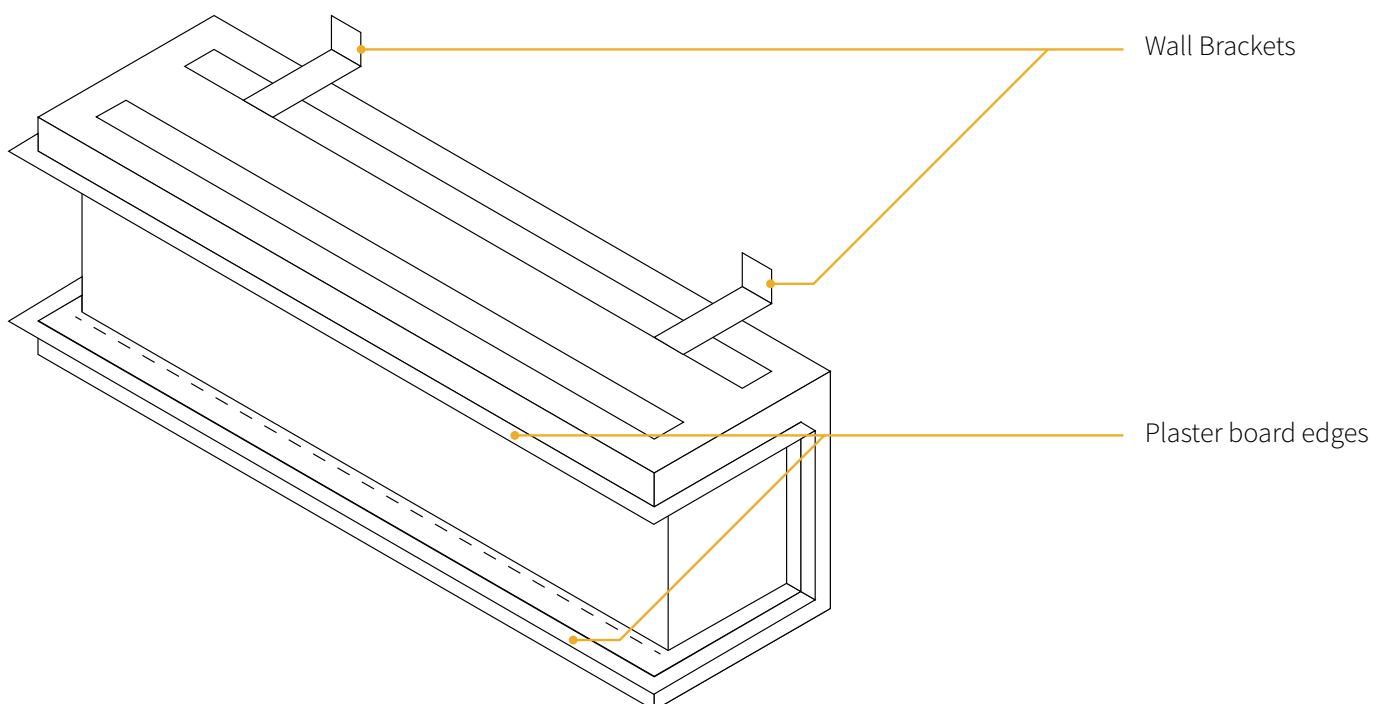
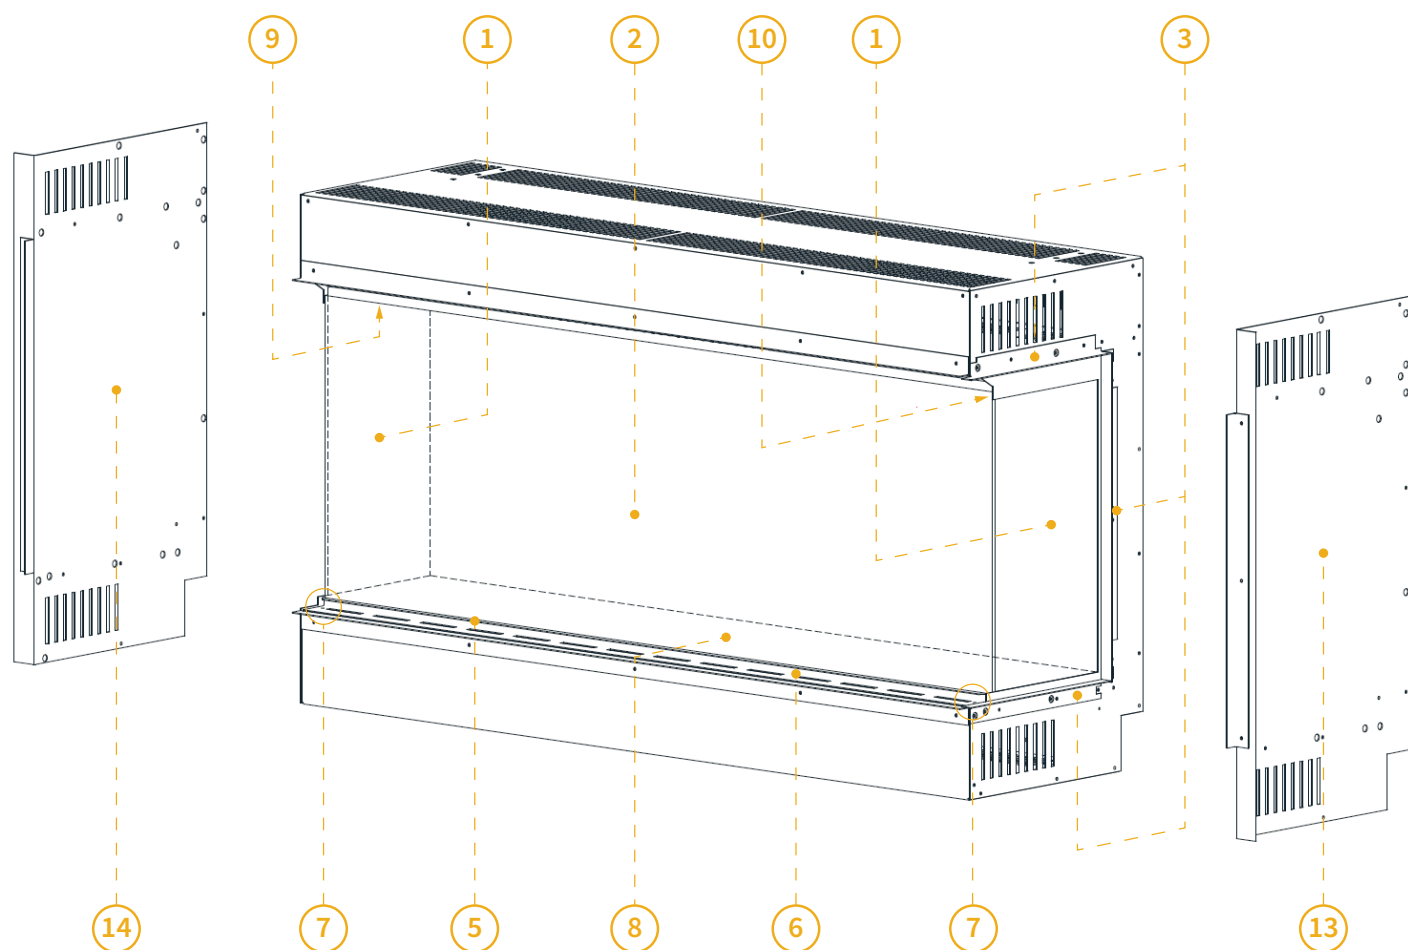

Figure.8.1 | Wall brackets & plaster board locations
Figure.8.2 | Parts of the one box system
- To remove the front glass first remove the screws of the glass retainer strip. See Figure 8.1. After removing the screws remove the glass retainer bracket. See Figure 8.2.